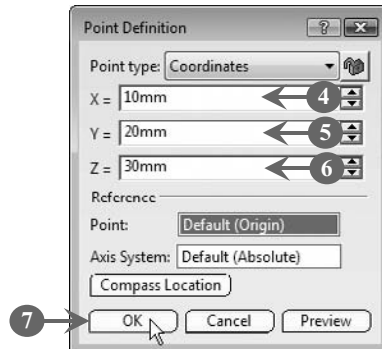

FIGURE 5.9
The **Point Definition** dialog box opens (**Figure 5.9**).
4. *Enter* a value representing the x-coordinate for the starting point of the line in the **X =** box (Figure 5.9). In our case, we have entered **10 mm**.
5. Enter a value representing the  $y$ -coordinate for the starting point of the line in the **Y =** box (Figure 5.9). In our case, we have entered **20 mm**.
6. Enter a value representing the  $z$ -coordinate for the starting point of the line in the **Z =** box (Figure 5.9). In our case, we have entered **30 mm**.
7. Click the **OK** button to close the **Point Definition** dialog box, as shown in Figure 5.9: